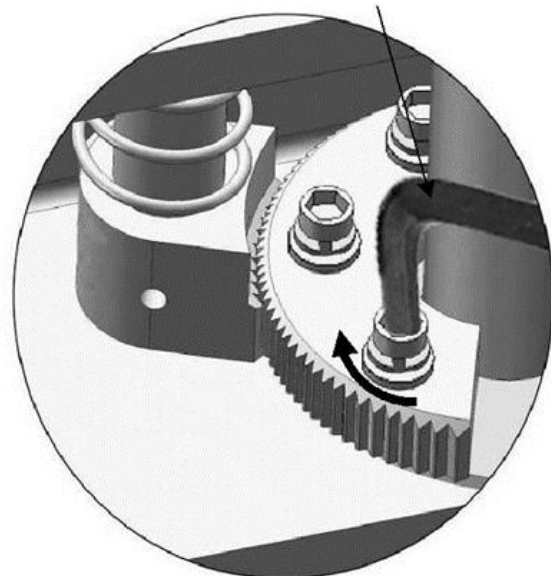

Fig. 30
4. Adjust the moon gear and arm lock to make it to be meshed, then tighten the socket bolts of arm lock (Fig.30).